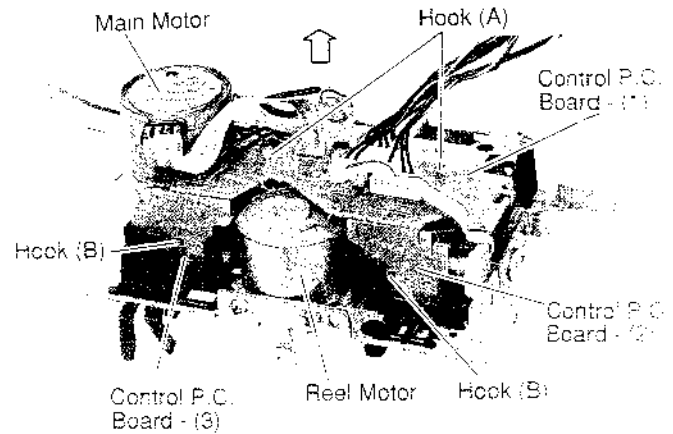

Figure 10
- (1) Remove three Hooks (A) as shown in Figures 10 and 11.
- (2) Disconnect all wires from the Control P.C.Board - (1).
- (3) Pull out the arrow, by removing two Hooks (B) as shown in Figure 10.